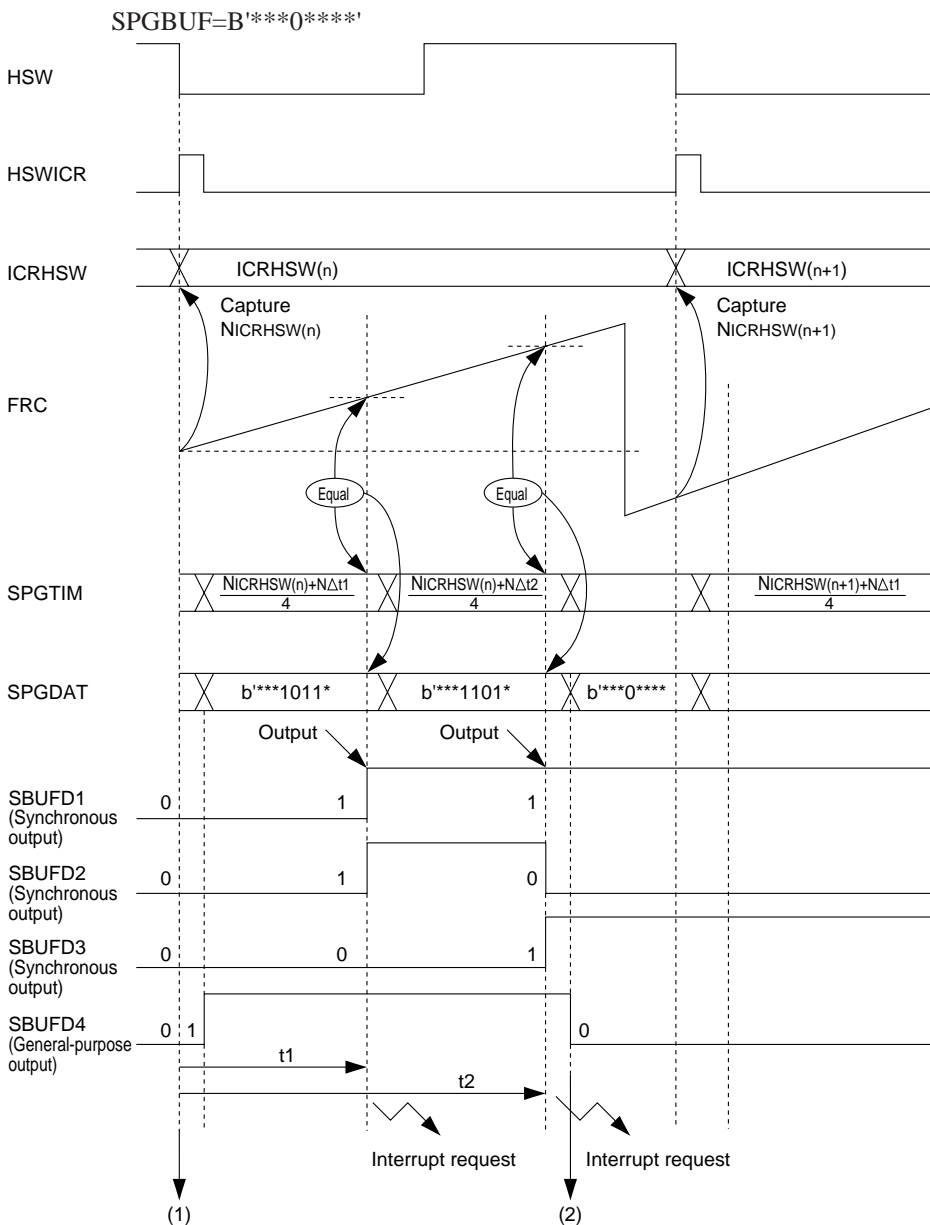

Figure 8-3-1 Synchronous Output Function 1 (SPG Function)
(1) At time (1) in Figure 8-3-1, set the following: initial values for each output data, synchronous output timing, and output data.
- (2) At time (2) in Figure 8-3-1, an instruction outputs a low-level signal from pin SBUFD4. At this time, settings for each register are the same as time (1). In other words, except for synchronous output pins, software instructions may freely modify values.